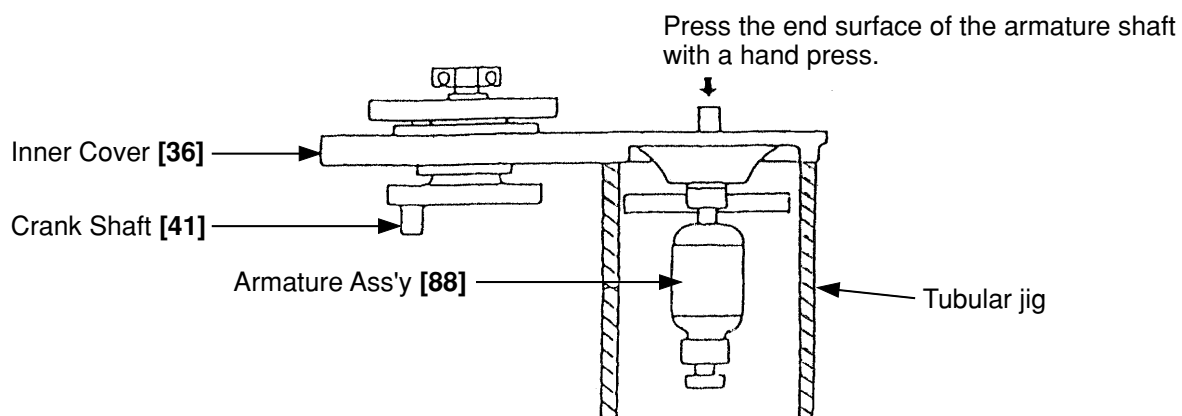

Fig. 12
- (1) Loosen the four Seal Lock Hex. Socket Hd. Bolts M4 x 12 [55], remove the Cap Covers [56], Cap Rubbers [57] and Brush Caps [58], and take out the Carbon Brushes (Auto Stop Type) (1 Pair) [59]. At this time, be very careful not to lose the disassembled parts.
- (2) Loosen the four Nylock Hex. Socket Hd. Bolts M8 x 35 [21], and remove the Cylinder Case [18]. Next, after loosening the Seal Lock Hex. Socket Hd. Bolt M8 x 16 [30], the Connecting Rod Ass'y [27] and Crank Washer [29] can be disassembled. Leave the Striker [20] and Piston [25] as they are.
- (3) Loosen the six Seal Lock Hex. Socket Hd. Bolts M6 x 45 [61], and disassemble the Gear Cover [32] and Counter Gear [63]. Then, by inserting a flat-blade screwdriver or similar tool into one of the air vents of the Inner Cover [36] and lifting it upwards, the Inner Cover [36], Armature Ass'y [88], Crank Shaft [41], and related parts can be removed in a single body.
- (4) As illustrated in Fig. 12, support the Inner Cover [36] with an appropriate tubular jig, and push down on the end surface of the armature shaft with a hand press to separate the Armature Ass'y [88] from the Inner Cover [36].